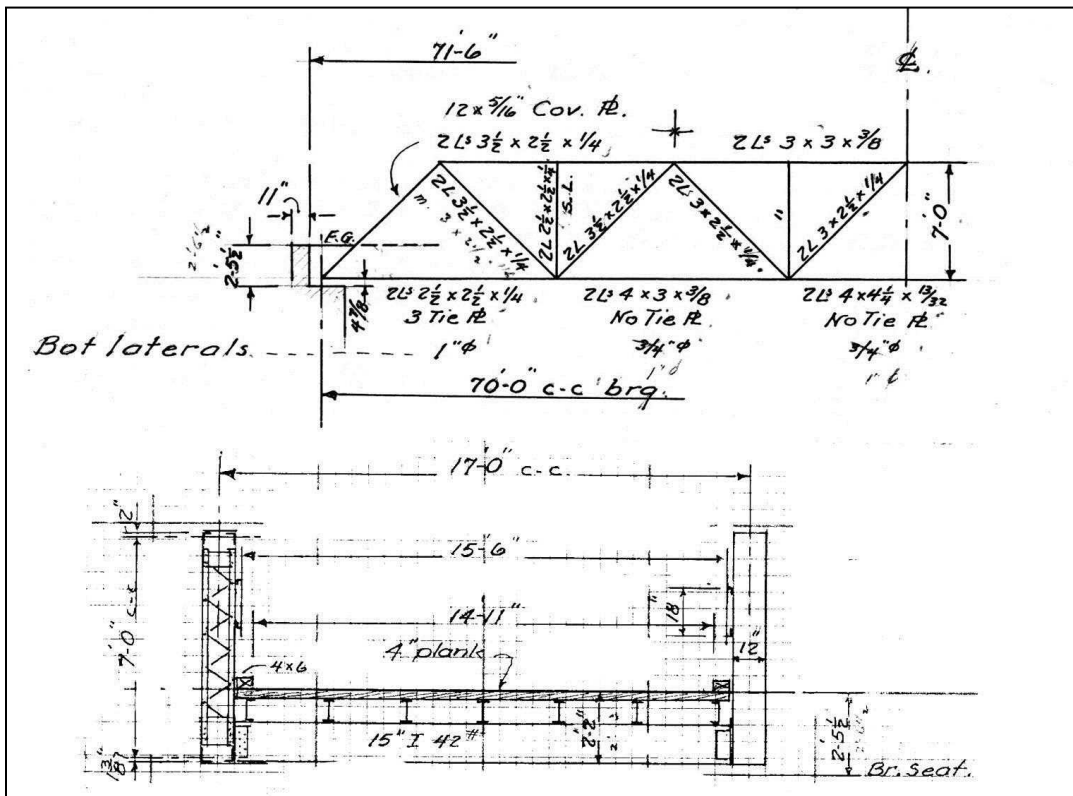

FIGURE 10: Hopkinton 134/166 East Penacook Road over Blackwater River (1907). Elevation and section sketch (NHHD Bridge Inventory Card).
- FIGURE 10: Hopkinton 134/166, Penacook Road over Blackwater River, 1907, drawing.